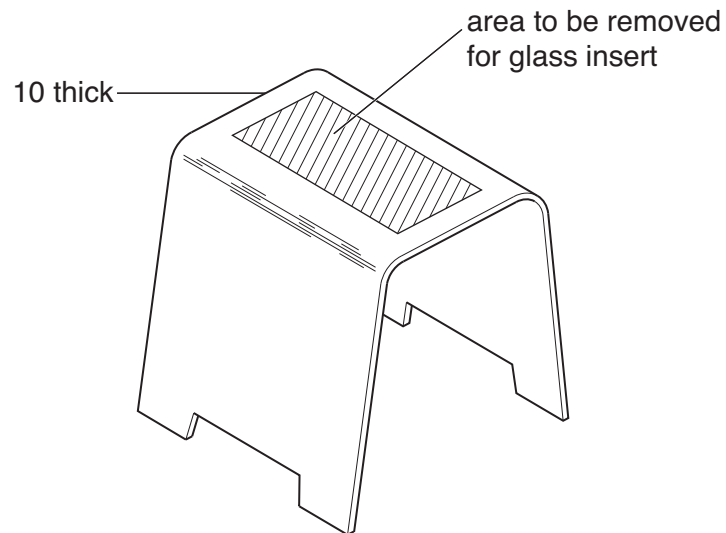

Fig. 8
- (b) A 6 mm thick sheet of glass is to be inserted into the top of Table A. The area to be removed for the glass is shown in Fig. 8.
- the processes involved in cutting out the area shown in Fig. 8